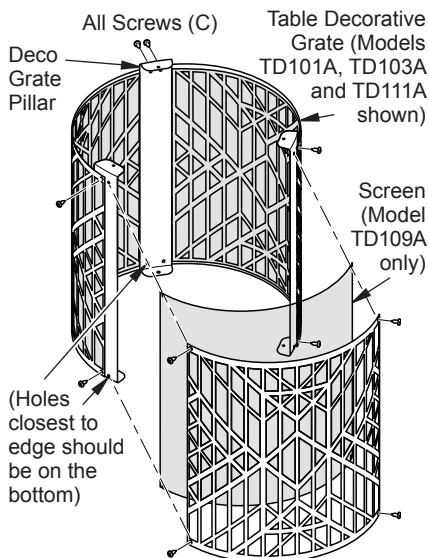

Figure 6 - Deco Grate and Grate Pillar Assembly
12. Model TD109A only: Place 3 screens around grate pillars. For all models, place 3 table decorative grate pieces around grate pillars. Attach to grate pillars with 4 screws (C) per grate as shown in Figure 6.